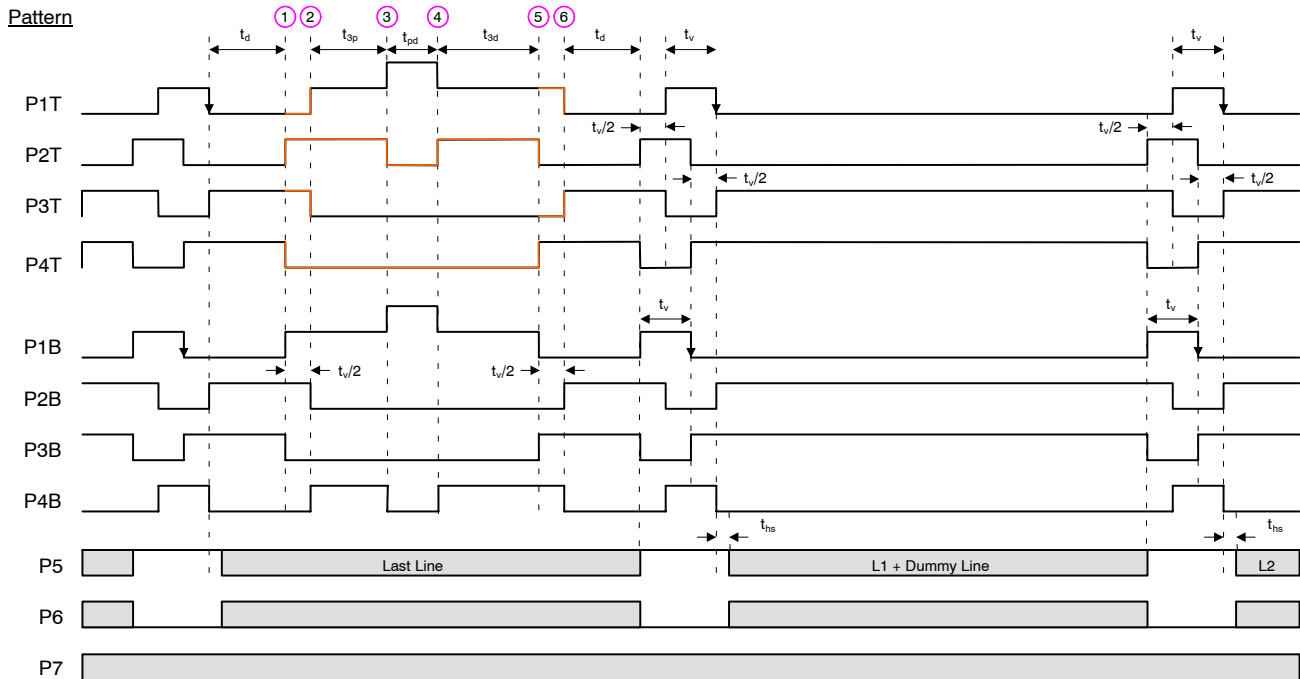
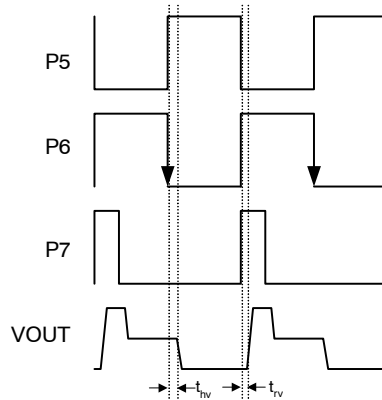
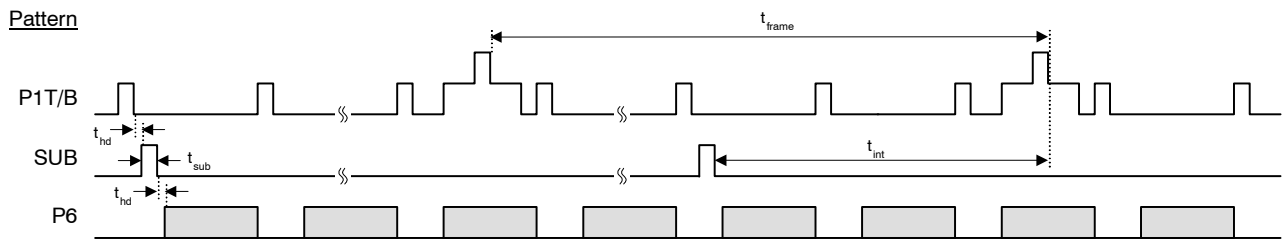

Figure 23. Photodiode Transfer Timing
Figure 25. Pixel Timing Detail
Figure 26. Frame/Electronic Shutter Timing
1. Refer to timing diagrams as shown in Figure 23, Figure 24, Figure 25, Figure 26 and Figure 27.
The timing sequence for the clocked device pins may be represented as one of seven patterns (P1–P7) as shown in the table below. The patterns are defined in Figure 23 and